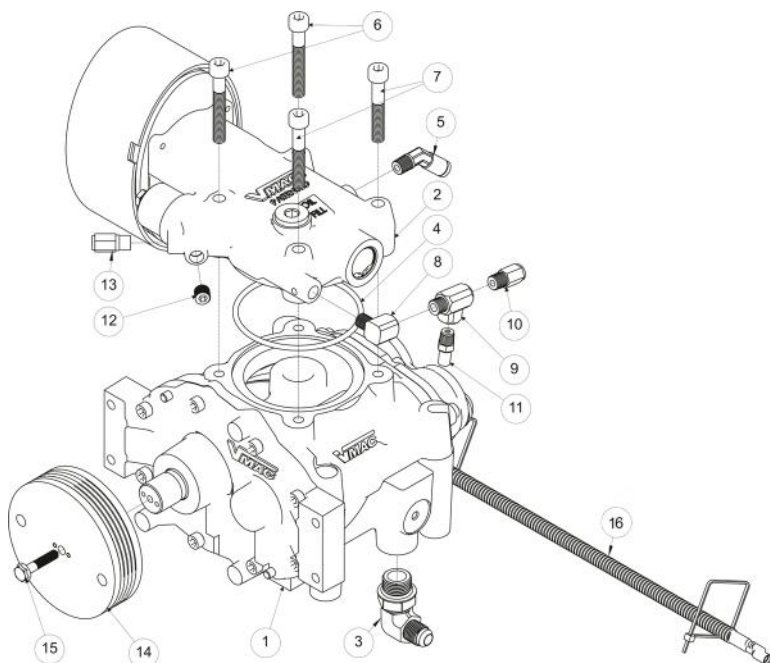

Figure 76 — Compressor Assembly (P190004)
2. Compressor Assembly, P190004 (Figure 76)